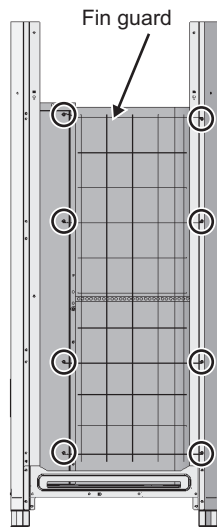
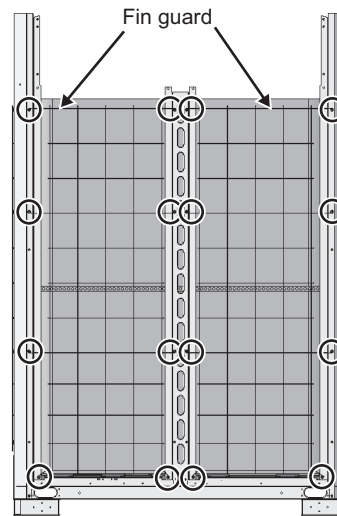

Fig. 65 Right
Fig. 66 Rear
(12) Remove the rear guard and, if the unit comes with fin guards, remove them. (Eight screws on each of the left, right, and rear: Fig. 65 and Fig. 66)